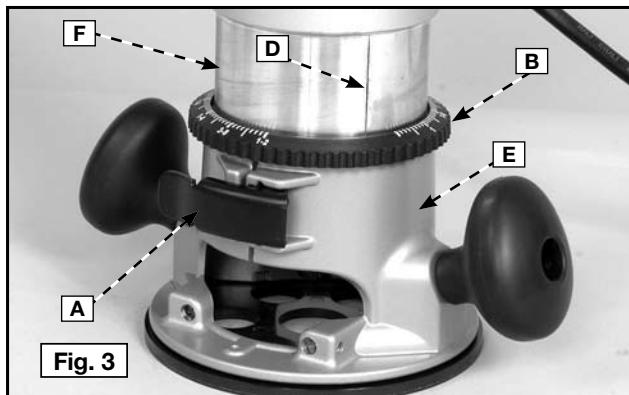

Fig. 3
1. Open the clamp (A) Fig. 3.
2. Hold the base (E) and turn the power unit (F) Fig. 3 counter-clockwise until the tip of the bit is above the bottom of the base.
4. Turn the power unit (F) Fig. 3 clockwise until the bit touches the work.
5. Close the clamp (A) Fig. 3.
6. Rotate the depth adjusting ring (B) Fig. 3 until the zero-line is opposite the index line (D) on the housing.
7. Open the clamp (A) Fig. 3.
8. Tip the router so that the bit is clear of the work surface. Turn the power unit (F) Fig. 3 clockwise until the index line (D) on the motor housing reaches the desired depth indicated on the ring.
9. Close the clamp (A) Fig. 3.